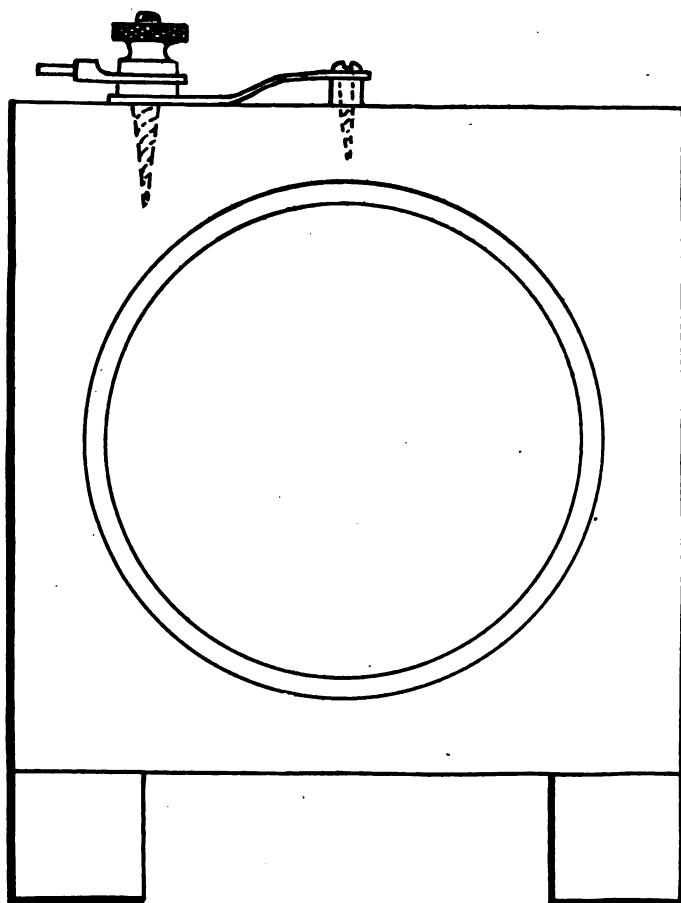

Fig. 57—Loose Coupler Primary; Right End
- 2 pieces $\frac{3}{8}$ " by $\frac{1}{2}$ " by 2" sheet brass. (One piece is for the regulator contact spring, and the other is for the connection that is seen in Fig. 57 connecting the square rod to the binding post.)
After the track of bare wire has been made on top of the coil, we are ready to put on the brass rod with its slider, the brass rod being connected to one of the binding posts by one of the thin brass strips, as shown at the right in Fig. 59. Fig. 57, which shows the right end of the primary, also shows this strap connection. The left end of the rod has the screw only which holds it to the end bracket. The left end of the primary is shown in Fig. 58.